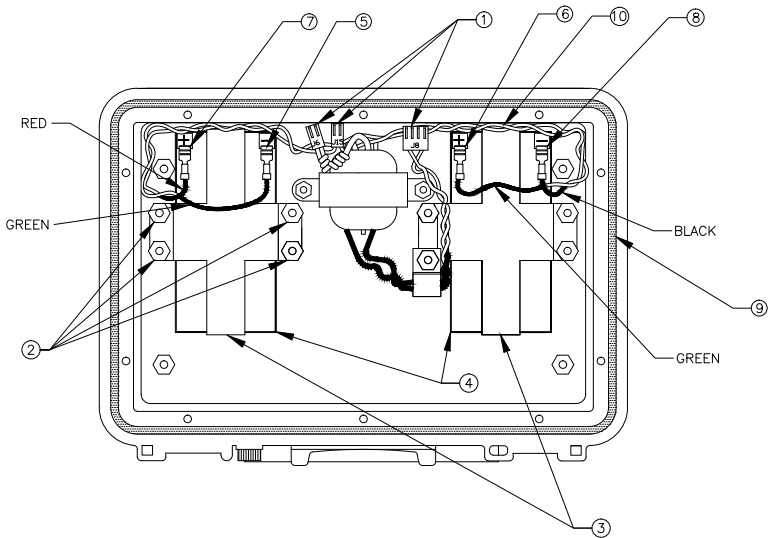

Figure 2. Battery Compartment Layout
3. Disconnect the panel’s connectors from J6, J8, and J15. (Fig. 2, #1)
4. Remove all the hex nuts from the battery brackets. (Fig. 2, #2)
6. Remove the battery bracket from the batteries. (Fig. 2, #3)
7. Remove the batteries. (Fig. 2, #4)
10. Connect one end of the green battery jumper to negative (-) terminal on one of the new batteries. (Fig. 2, #5)
11. Connect the other end of the green battery jumper to the *positive (+)* terminal of the *other* battery. (Fig. 2, #6)
12. Connect red end of the interconnection cable to the battery's positive (+) terminal (Fig. 2, #7)
13. Connect black end of interconnection cable to the battery's negative (-) terminal. (Fig. 2, #8)
15. Check the o-ring on the inside of the housing for debris or damage. Replace it if necessary. (Fig. 2, #9)
16. Lay battery jumper and interconnection cables on the hinge side of housing as shown. (Fig. 2, #10).
4. Remove any debris from the o-ring located on the inside of the cover (Fig. 2, #21).